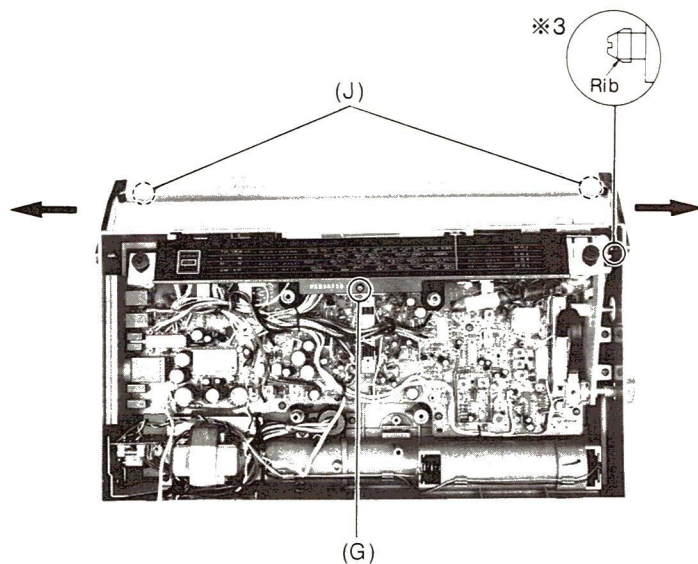

Fig. 5
※2. To remove the handle, first remove two screws (J) and open the handle arm in direction of the arrow as shown in Fig. 5.